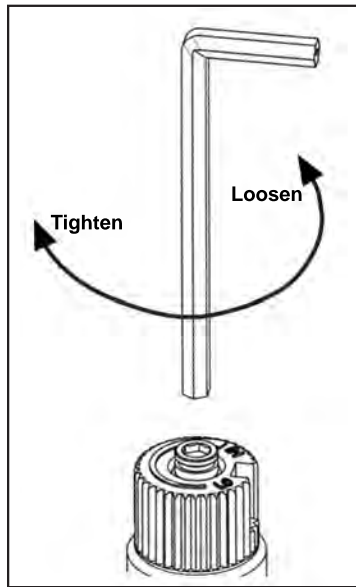

Figure 15: Removing valve screw.
- b) Insert a  $\frac{5}{32}$ " or 4 mm Allen wrench into the hexagonal key-way of the screw (see Figure 15), rotate it counter-clockwise until it is free and extract it.
- e) Using the Allen wrench as shown in Figure 15, rotate the screw clockwise until a torque of 9 inch lbs. **WARNING!** Do not over tighten the screw. It is recommended that you grip the wrench by the short side.